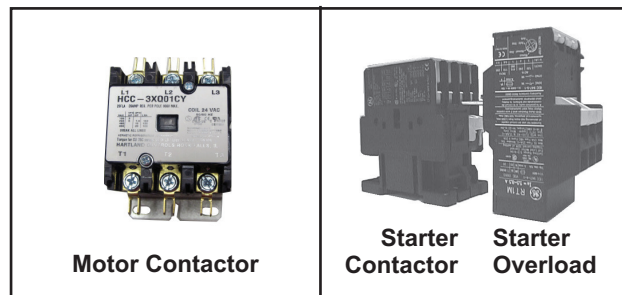

Figure 4. Motor Contactor, Starter Contactor, and Starter Overload
- **Starter Contactors and Overloads:** Starter contactors and overloads (see Figure 4) are listed as follows:
- **Motor Contactor:** The motor contactor (option AN2, PN 216386, manufacturer's model HCC-3XQ01CY, see Figure 4) is located in the electrical compartment.